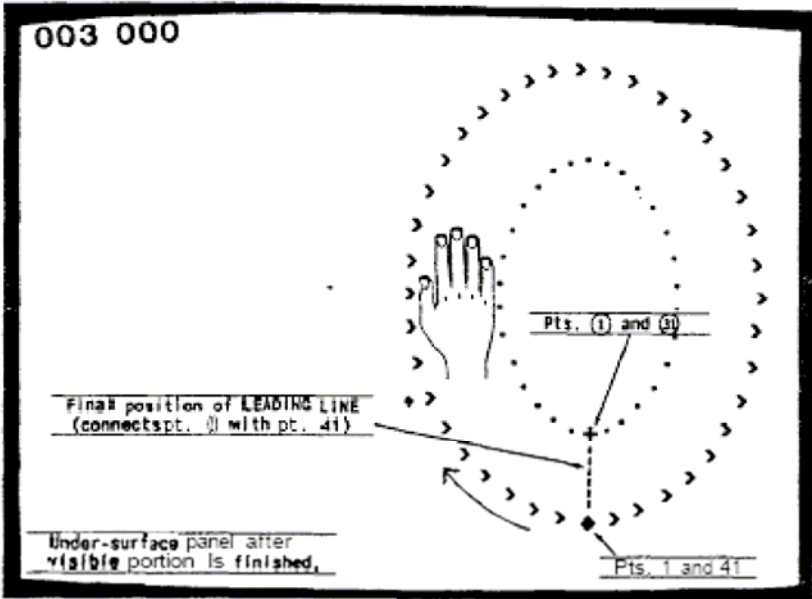

fig 48 (BASE LINE GRAPH)
3. Use the "A" (Advance/Draw) key, with the "." (Plot) key to plot all points of the oval (see fig. 48). Plot the last point directly on the first point. (Note: You may find it easier to type "H" (Hop Screen) and destroy the screen display of the suggested points before doing this step.)